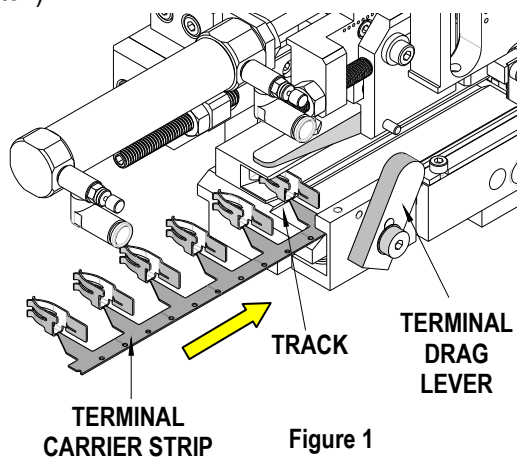

Figure 1
3. Raise the terminal drag by turning the lever and feed the terminal strip into the track. See Figure 1.